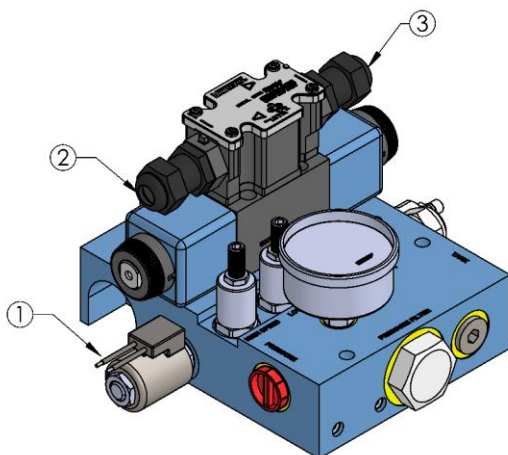

Figure 5: Electrical Connection Locations
The (3) three locations of the solenoid connection wires are shown in Figure 5 above. The corresponding wiring Pair #, wiring size, colour, and arrangement is defined in Table 3 and **Error! Reference source not found..**